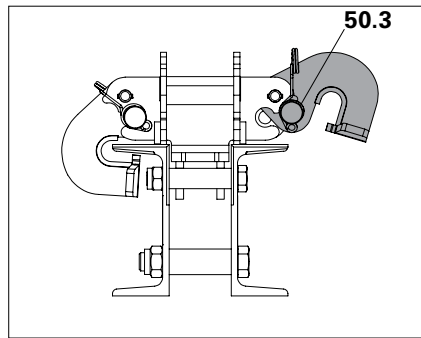

Fig. D5.04
1. Lift the securing pin (50.3). (Fig. D5.04 + D5.04a)